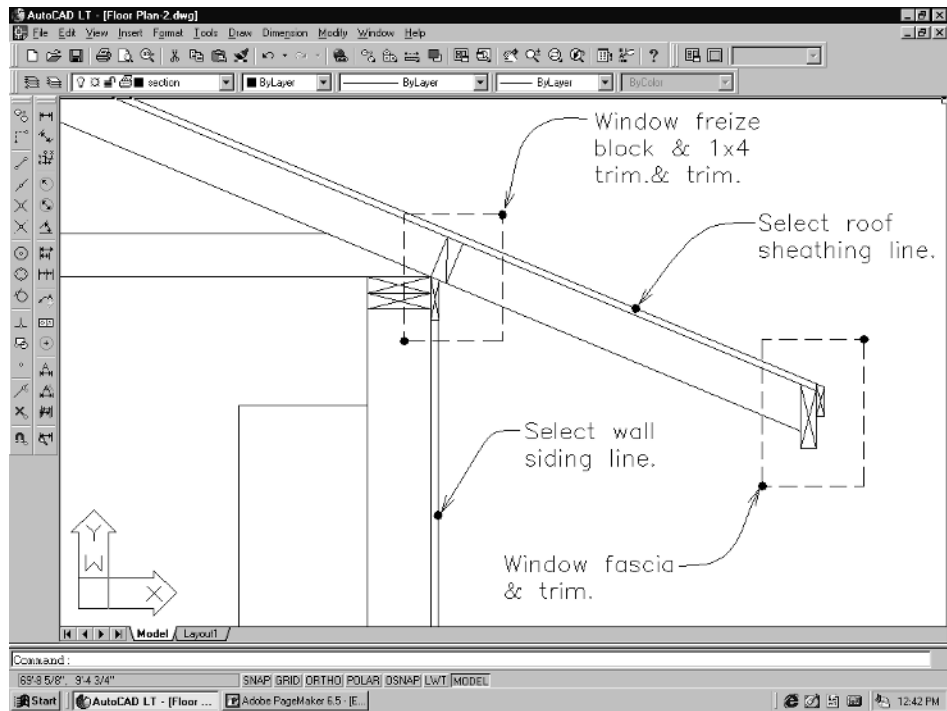

Figure 3-61
13. Next, pick the **Mirror** command from the Modify pull-down menu. When prompted to *Select objects*, window around the fascia and trim, pick the roof sheathing line and the wall siding line, and then window the 1x4 trim and frieze board, as shown in Figure 3-61. Once you have selected all of these, hit **Enter**.